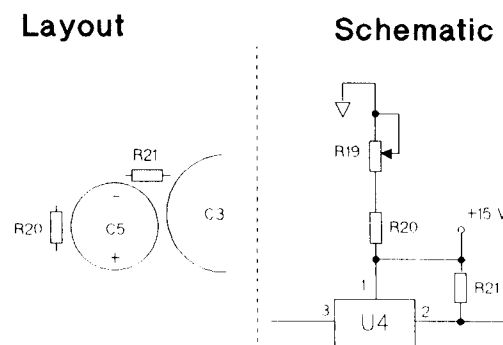

Figure B-9. R20
5. Figure B-9 shows the location of R20 in the circuit and on the main board. Modify Figure 10.2-3 and Figure 10.4-8 accordingly.